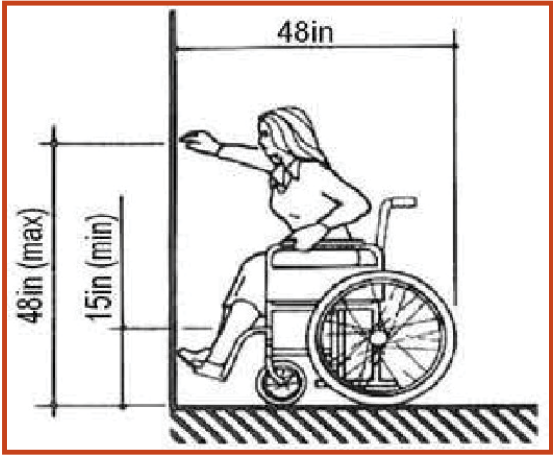

Figure 10 (ADAAG) High Forward Reach
- The pedestrian signal button must have an unobstructed forward reach. For the height of the button, refer to the Standard Plans. (See Figure 10 below.)